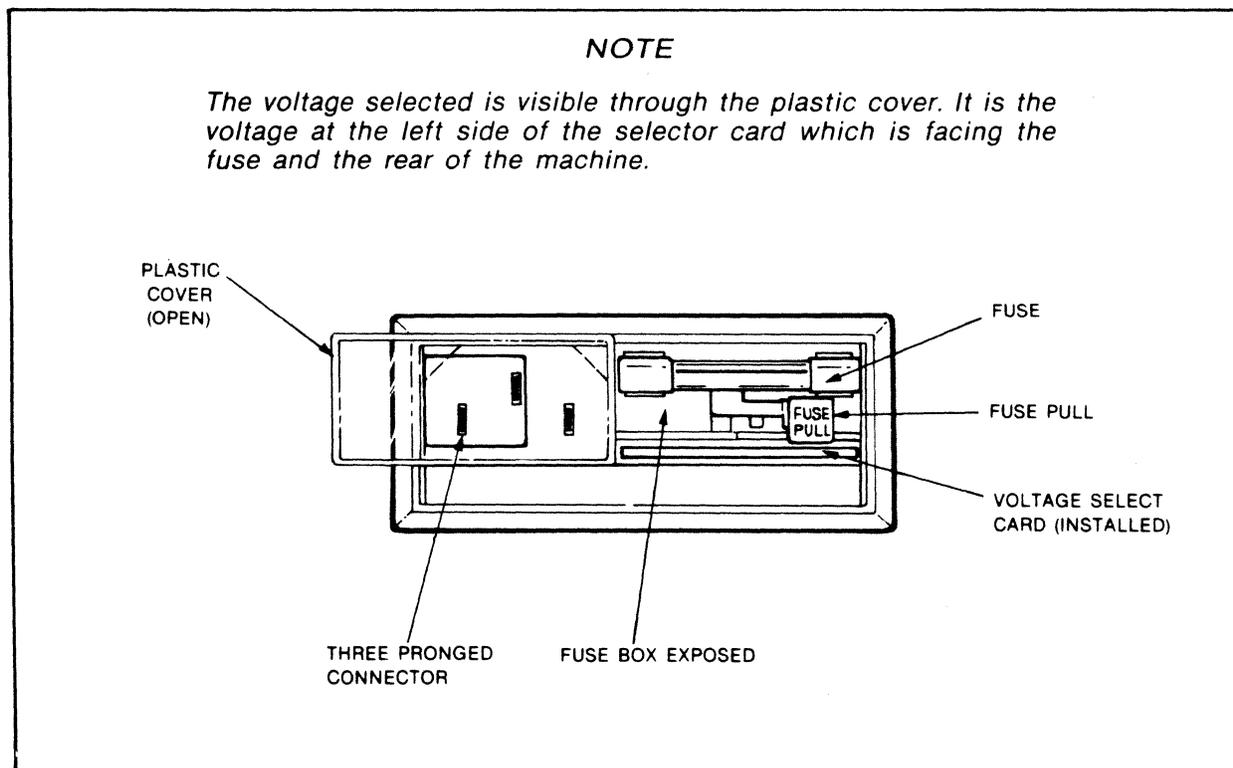

Figure 2-5. Fuse Box
2. Slide open the fuse box plastic cover (Figure 2-5).